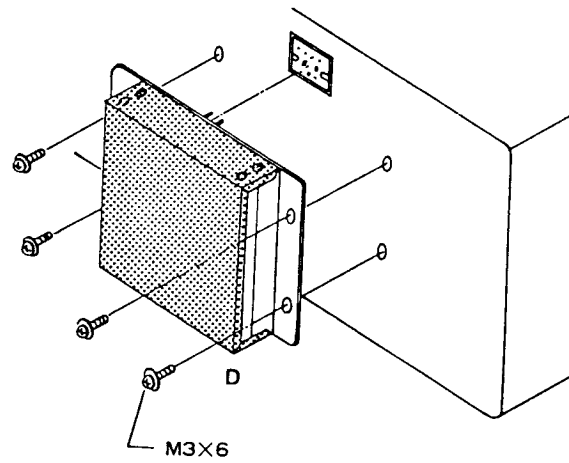

Figure 8
- (4) Install the DC-DC converter module as shown in Figure 8. Use the four screws supplied with the kit. Do not force the plug into the socket, as the connection should be smooth, yet solid.
- (5) Check the DC cable fuse socket, located in the positive (red) lead, to be certain that a 20 amp fuse is installed.
- (6) When making connections to the battery, be absolutely certain that the proper polarity is observed. The RED lead should be connected to the POSITIVE (+) battery terminal, and the BLACK lead should be connected to the NEGATIVE (-) terminal. OUR WARRANTY DOES NOT COVER DAMAGE CAUSED BY REVERSED POLARITY CONNECTIONS.
- (7) Before connecting the DC power cable to the transceiver, check the automobile voltage regulator level with the engine running (battery charging). The maximum charging rate should be 15 volts or less. If the voltage is higher than this level, please adjust the voltage regulator for a maximum of 15 volts. This precaution also applies to bench power supplies, which should be adjusted in the same fashion. Caution should also be taken so that the transceiver is not operated from a supply voltage of less than 12 volts.
- (8) Connect the DC cable to the transceiver. Power connections are made automatically when the DC cable is connected to the POWER jack.